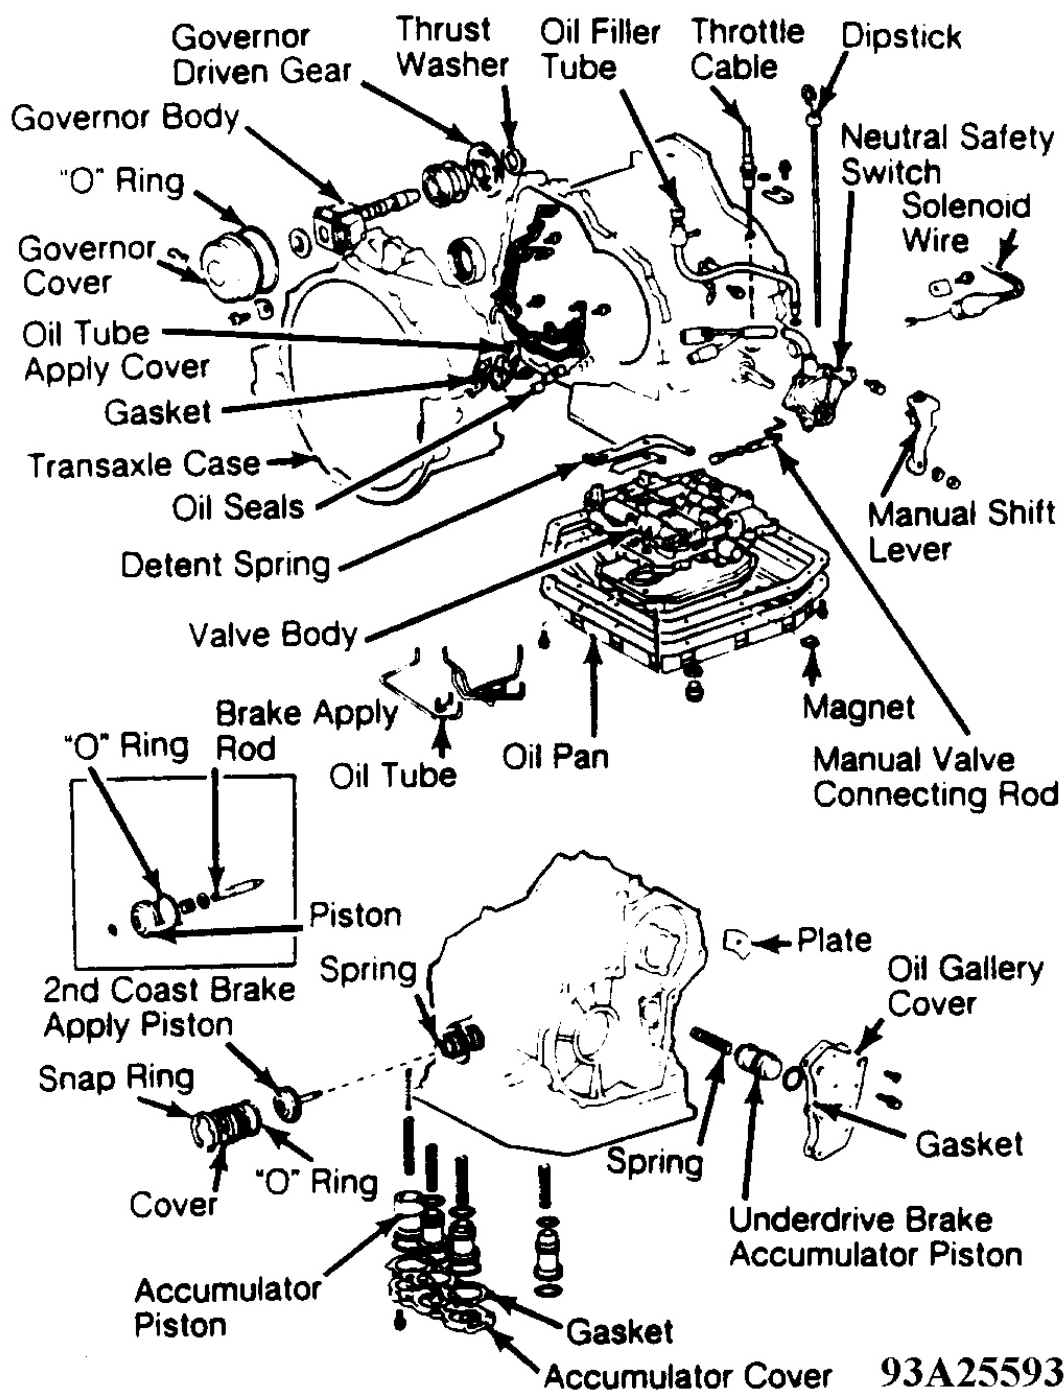
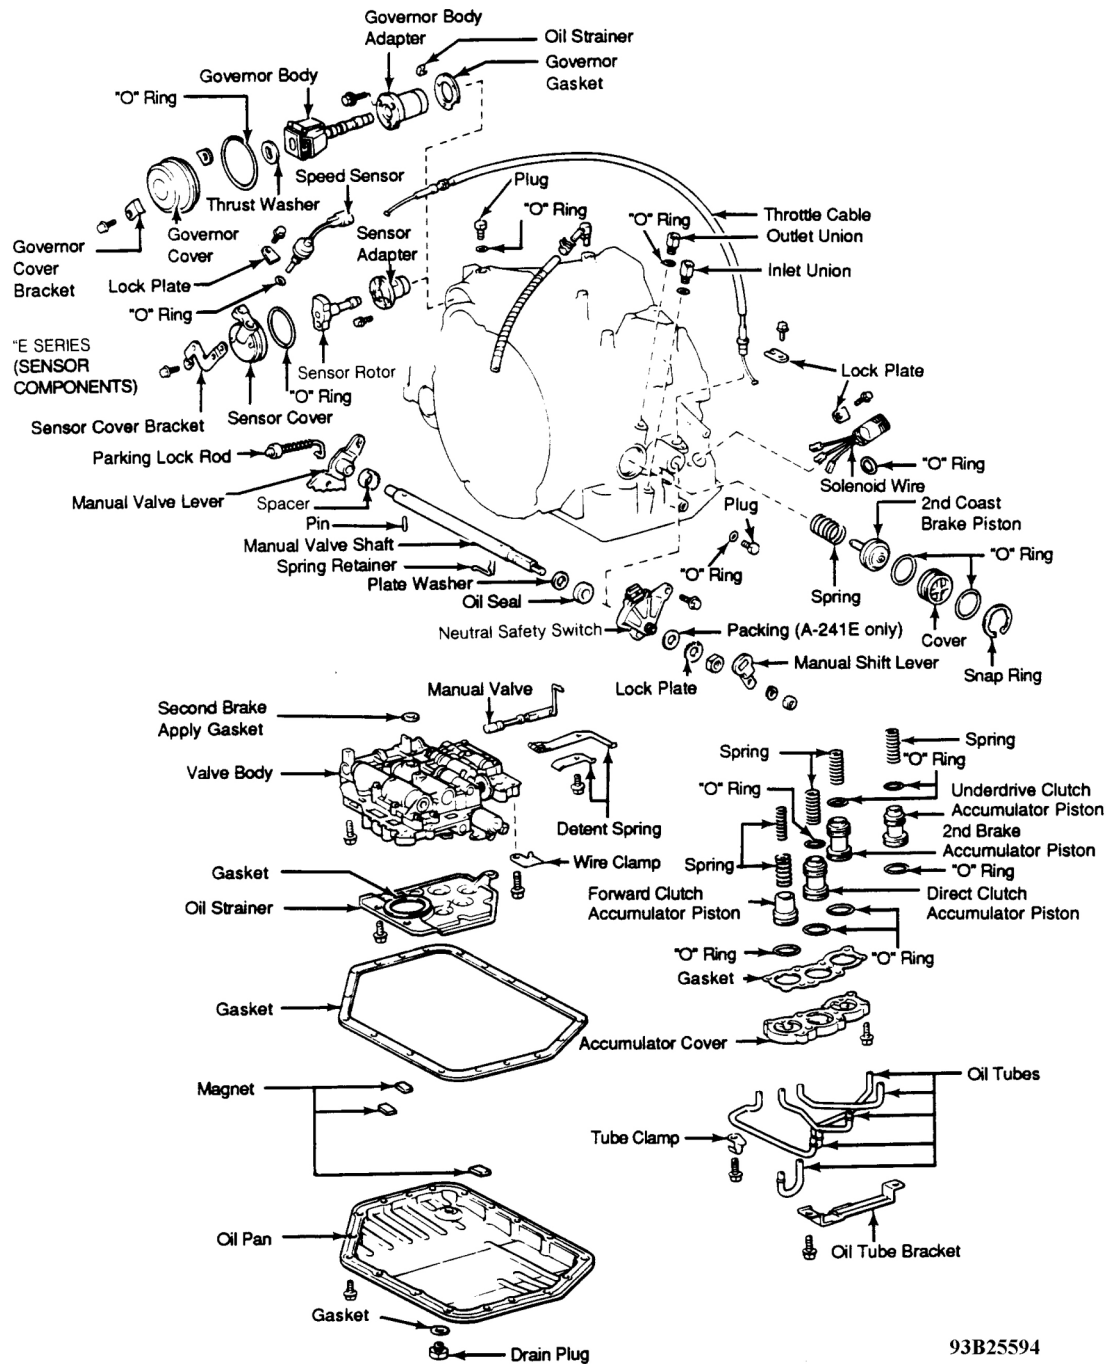

Fig. 9: Exploded View Of External Components (A-240E & A-240L)
Fig. 10: External Components (A-241E, A-241L, A-243L & A-244E)
1. Remove oil cooler pipes, manual shift lever and neutral safety switch. Remove filler tube and dipstick. Remove throttle cable lock plate. Remove solenoid wire lock plate. On A-240L, A-241L and A-243L transaxles, remove governor cover bracket. See **Fig. 9** and **Fig. 10**.
2. Remove governor cover and "O" ring. Remove governor body, thrust washer, governor body adapter, gasket and governor oil strainer. On A-240E, A-241E and A-244E transaxles, remove lock plate and pull out speed sensor. Remove "O" ring from speed sensor. Remove 2 bolts and sensor cover bracket. Using a screwdriver, remove sensor cover. **DO NOT** damage cover. Remove sensor rotor. Remove sensor adapter. See **Fig. 10**.
15. Remove parking lock sleeve and cam guide bracket. Using a screwdriver and hammer, unstake and remove spacer. Using a punch and hammer, drive out lock pin. Remove spring from manual valve shaft. Remove manual valve shaft, lever and washer. Using screwdriver, remove manual shaft oil seal. See **Fig. 10**. Remove oil gallery cover and gasket. Remove underdrive brake accumulator piston and spring. See **Fig. 18**.